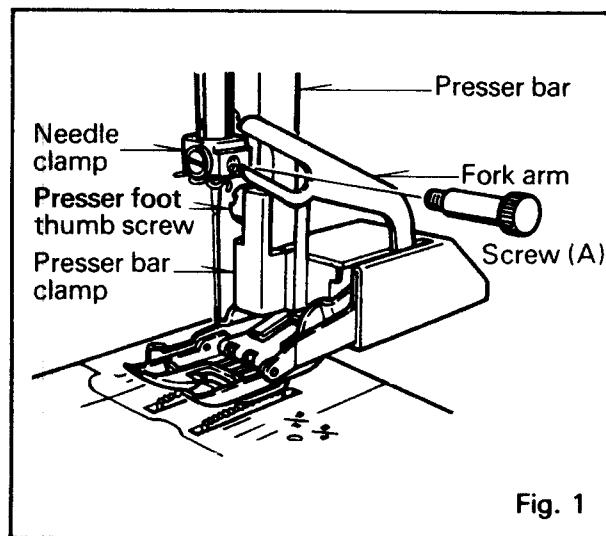

Fig. 1
1. Raise foot release lever to remove the foot. (Fig. 1)
2. Place the desired foot on the needle plate aligning needle holes. (Fig. 1)
1. Insert bobbin case into shuttle from left side, aligning red dot on the bobbin case with red dot on the bobbin case stopper. (Fig. 1)